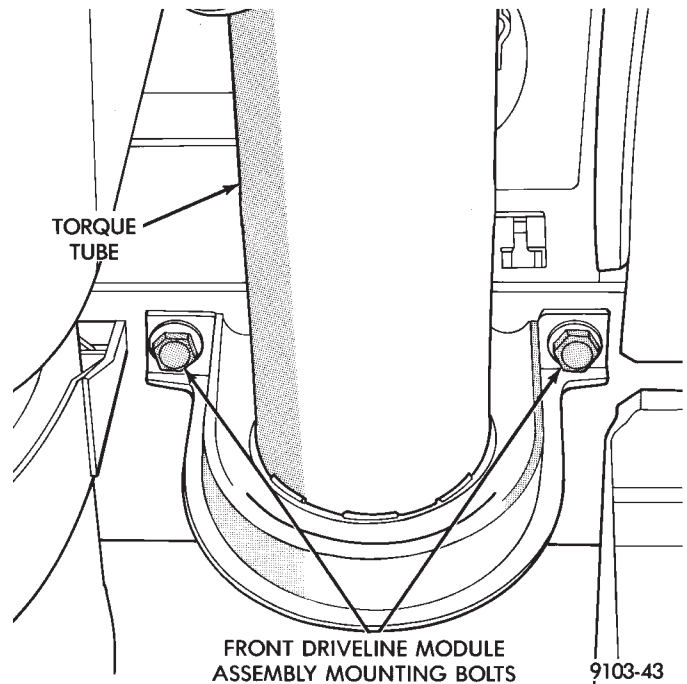

Fig. 5 Rear Drive Line Module Front Mounting Bolts to TORQUE SPECIFICATION in the rear of this section for tightening specifications.
- (9) Remove rear drive line module assembly front mounting bolts (Fig. 5).
- (10) Partially lower rear drive line module assembly and disconnect remote solenoid vent and remote carrier vent.
- (11) Remove rear drive line module assembly.
- (12) To Install, Reverse Removal Procedure. Refer